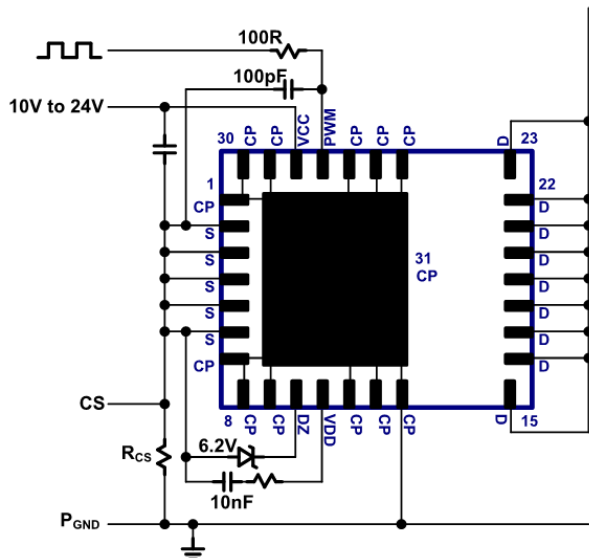

Fig. 24. Current sensing circuit
For many applications it is necessary to sense the cycle-by-cycle current flowing through the power FET. To sense the current flowing through the GaNFast power IC, a standard current-sensing resistor can be placed in between the source and power ground (Fig. 24). In this configuration, all of the components around the GaNFast power IC (C_{VCC} , C_{VDD} , D_Z , etc.) should be grounded with a single connection at the source. Also, an additional RC filter can be inserted between the PWM signal and the PWM pin (100 Ω , 100 pF typical). This filter is necessary to prevent false triggering due to high-frequency voltage spikes occurring at the source node due to external parasitic inductance from the source PCB trace or the current-sensing resistor itself. For increased cooling pad PCB copper area it may be desired to connect CP to the circuit PGND. Fig. 24 shows the components around the GaNFast power IC grounded at the source pins (S) and CP connected to PGND. This allows for all CP pins and CP pad to be connected to a large and continuous thermal copper area without being obstructed by the current sensing resistor. **CP must be connected to source (S) or circuit PGND!**